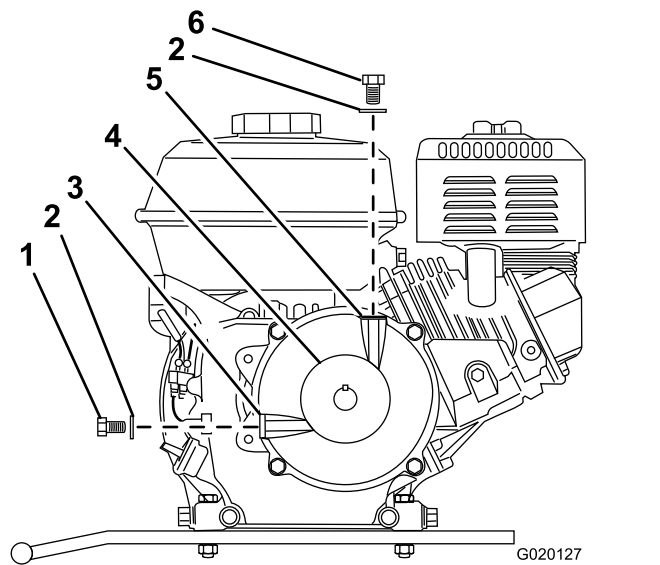

Figure 59
6. Remove the filler bolt and washer from the filler port on the top of the reduction case (Figure 59).
7. Remove the oil-level-check bolt and washer from the oil-level port in the side of the reduction case (Figure 59).
12. Install the oil-level-check bolt and washer to the oil-level port of the reduction case, and tighten the bolt (Figure 59).
13. Install the filler bolt and washer to the filler port of the reduction case and tighten the filler bolt (Figure 59).